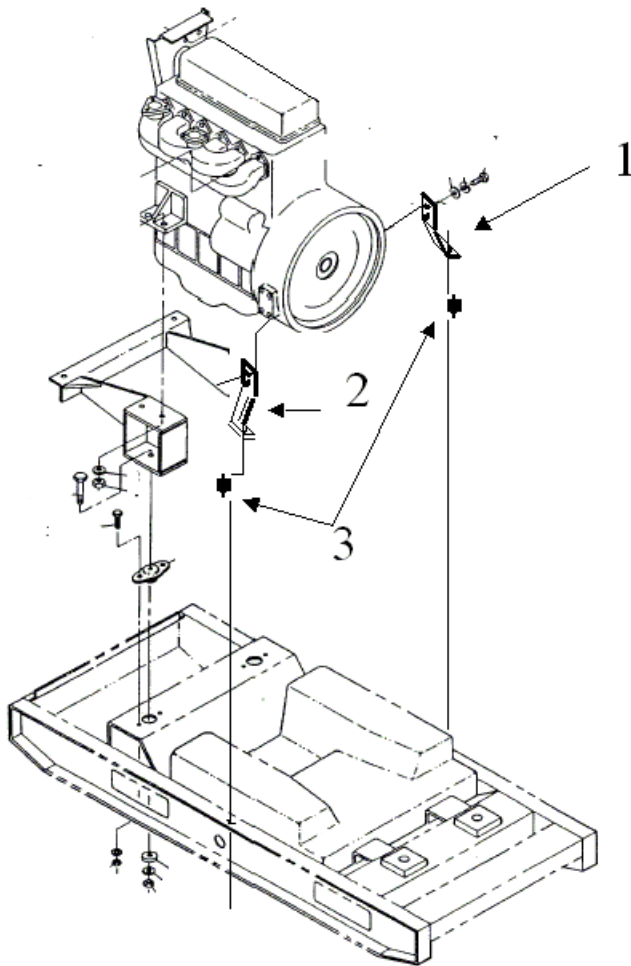

Figure 1. Main Generator Support Brackets and Cylindrical Stud Mount
24. Repeat steps 12-23 for RH support bracket (**Fig 1, Item 2**) installation. (**Parts Required**)